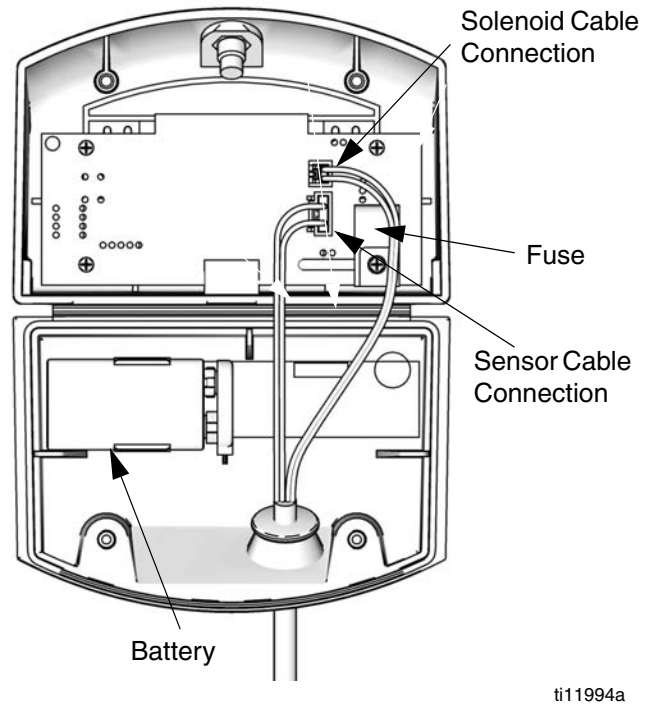

FIG. 18. DataTrak Battery and Fuse Location
5. Disconnect the used battery and replace with an approved battery. See FIG. 18.